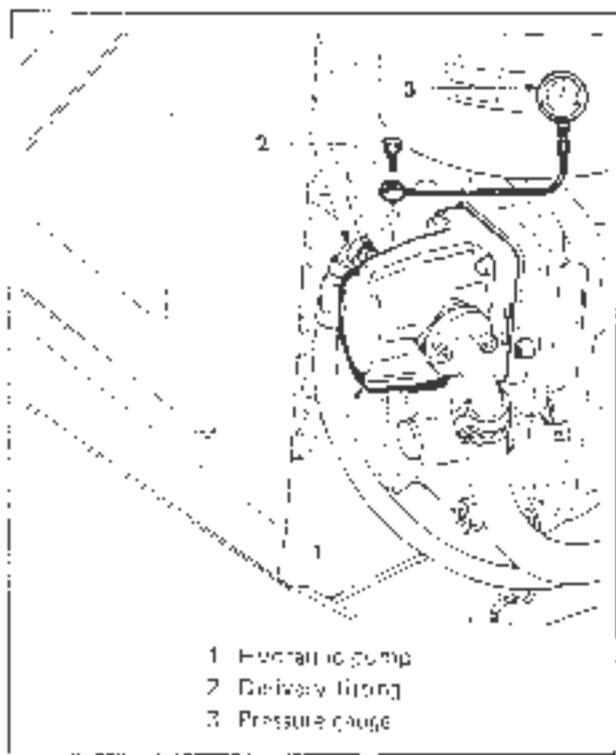

Figure 32. Installation of pressure gauge on the hydraulic pump delivery
- Install a pressure gauge with 250 kg/sq cm end-of-scale (minimum) in the hydraulic pump delivery fitting (see fig. 32).
Location of hydraulic pump on engine body may be different from that indicated in fig. 32. Location may vary according to the engine installed on tractor.